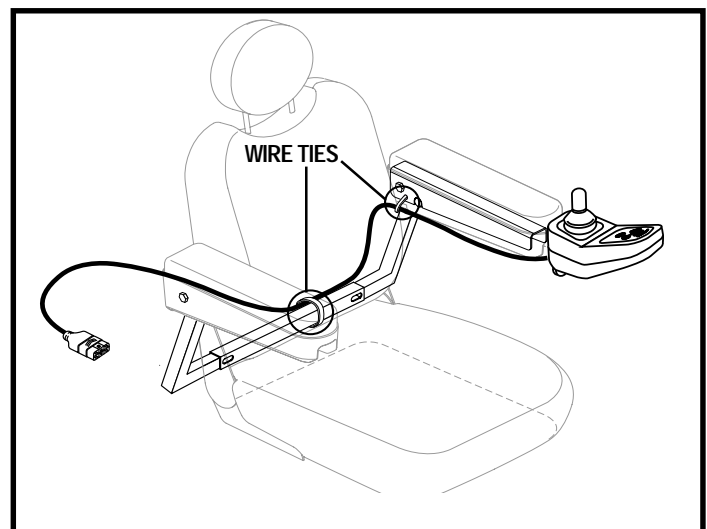

Figure 12. Remote Plus Controller Routed on a Contour Seat
4. Install the controller into an armrest and route the cable to the back of the power base. See figure 12.
11. Secure the controller cable to the armrest receiver with wire ties. See figure 12.